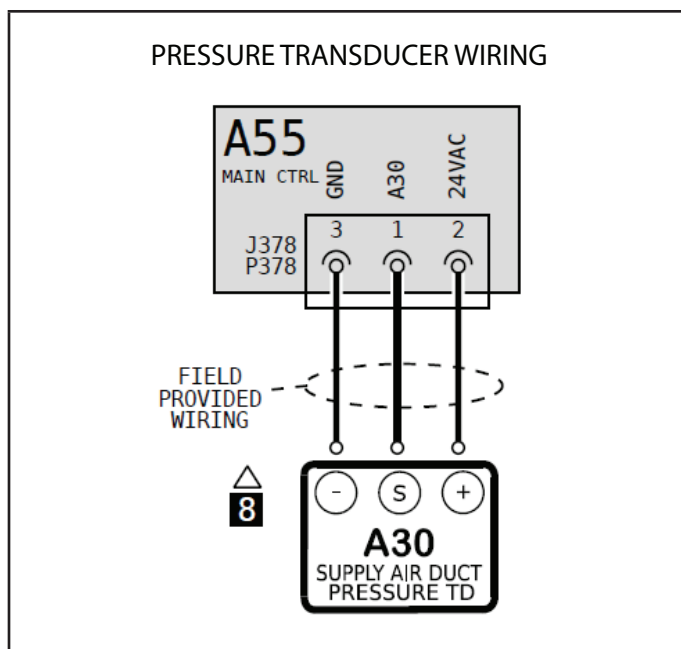

FIGURE 39
- 2 - Two twisted pairs of shielded cable must be used to connect the pressure transducer. See FIGURE 39.